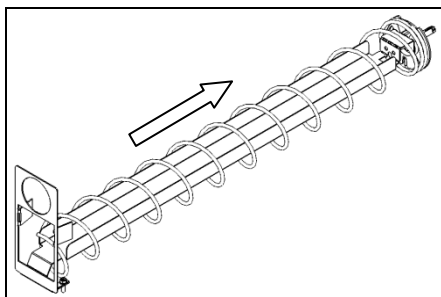

Figure 5
5. Install the **K-Cup adapter** through the spiral (See Fig. 5)
5. Use provided fastener **4212505** and install in the back of bracket (See Fig. 5 & 6)
(Do not fasten 4212505 all the way down to bracket, leave An 1/8" gap between the bracket and 4212505) (See Fig. 5)
6. Form the bracket 90 degrees both sides (See Fig. 5 & 6)